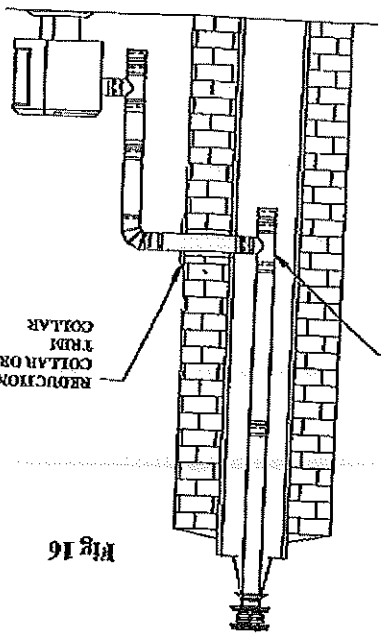

Fig 16
B. A Tee is installed at the bottom end of the vertical pipe (Figure 16).
C. A Reduction Collar or a Trim Collar is required to go around the pipe section that passes through the masonry to give it a finished look (Figure 16).
1. Set the appliance in its final location and mark the center of the hole where the pipe is to penetrate the masonry chimney (Figure 16). Insure that you comply with the manufacturer's specifications in regards to clearance and distances from combustible surfaces.